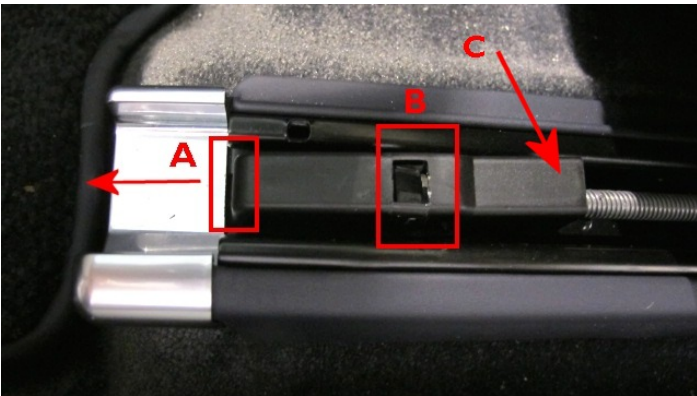

Figure 35
**NOTE:** Referring to Figure 35 when fitting the seat bolt cover ensure the front edge lip (Point A) is located under the seat rail embellisher and push the cover forward.